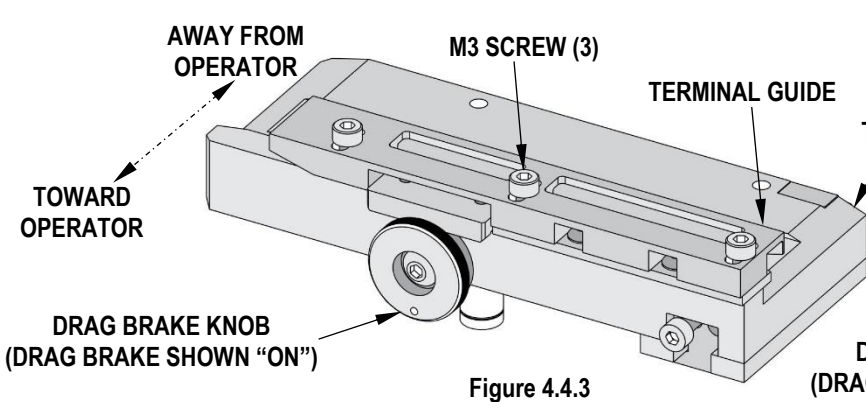

Figure 4.4.3
3. Use a 2.5mm hex wrench to loosen the three M3 screws holding the guide. See Figures 4.4.3 and 4.4.4.